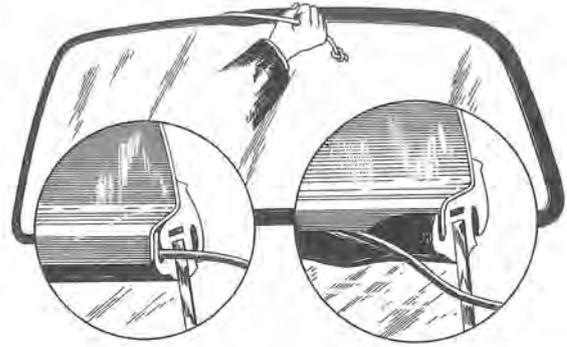

Fig. 8-27. Fitting the rear window
3. Place the rear window in position with the rubber strip fitted. Wearing working gloves, carefully strike the rear window a few blows with the **palm of the hand** so that it makes good contact all round. Then carefully pull out the cord from inside. This will cause the rubber strip to "creep" over the sheet metal edge as shown in Fig. 8-27. It may sometimes be necessary to adjust the position of the rear window with the palm of the hand. If the